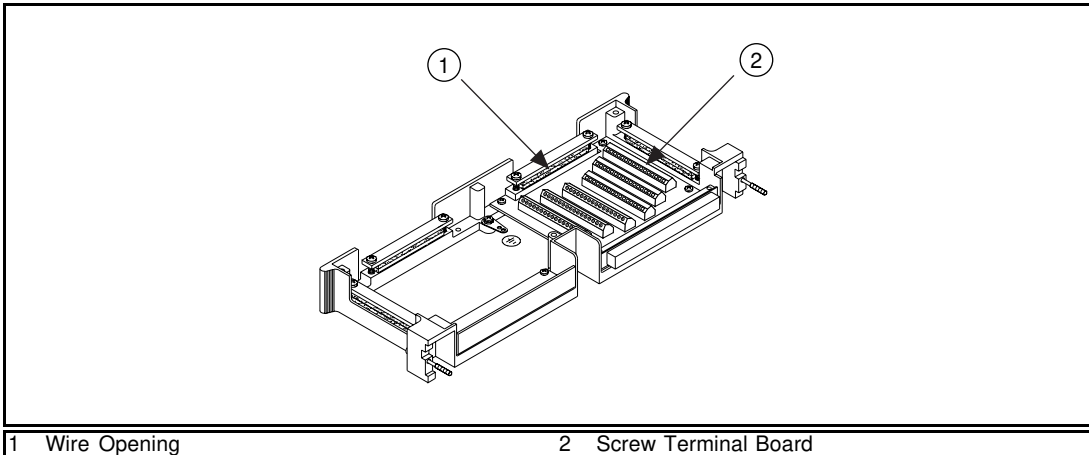

Figure 2. *VXI-TB-196 Screw Terminal Board*
1. To access the screw terminals (9), remove the terminal block cover (5) by loosening the three cover screws (6) with a Phillips-head number 1 screwdriver. These screws stay attached to the cover without falling out.
2. Choose the wire opening (Figure 2) through which your signal wires will pass and loosen the appropriate strain-relief bar screws (11) with a Phillips-head number 2 screwdriver. You can completely remove the strain-relief bar (12) for easier access.
4. Loosen the screws in the screw terminals (9) with a 0.09 in. flathead screwdriver.
Figure 2 shows the screw terminal board inside the uncovered VXI-TB-196 terminal block. The VXI-TB-296 will have two screw terminal boards inside, instead of the single board shown in the VXI-TB-196.